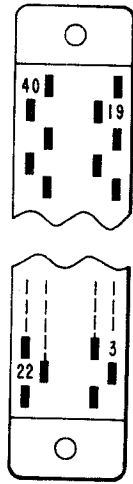

Fig. 5—Pin Location on 908C Connector
**4.01** This part contains connector information for the data station consisting of data sets 202T in a 39A1 or 40B1 data mounting. For all connections to the 39A1 data mounting, refer to Table A. Figure 5 shows pins locations on the 908C connector which is used with the 39A1 data mounting.